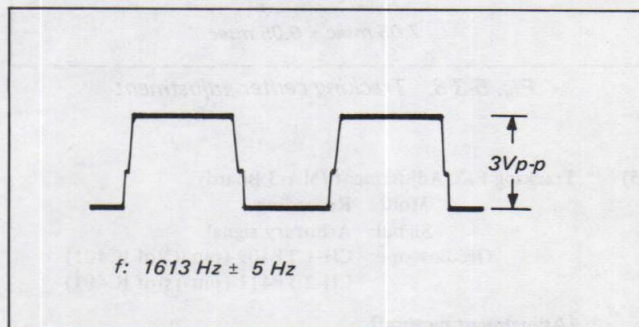

Fig. 5-3-7. PICTURE SEARCH, capstan DC bias adjustment
- i) Adjust to $1613\text{ Hz} \pm 5\text{ Hz}$ with RV409. (See Fig. 5-3-7)